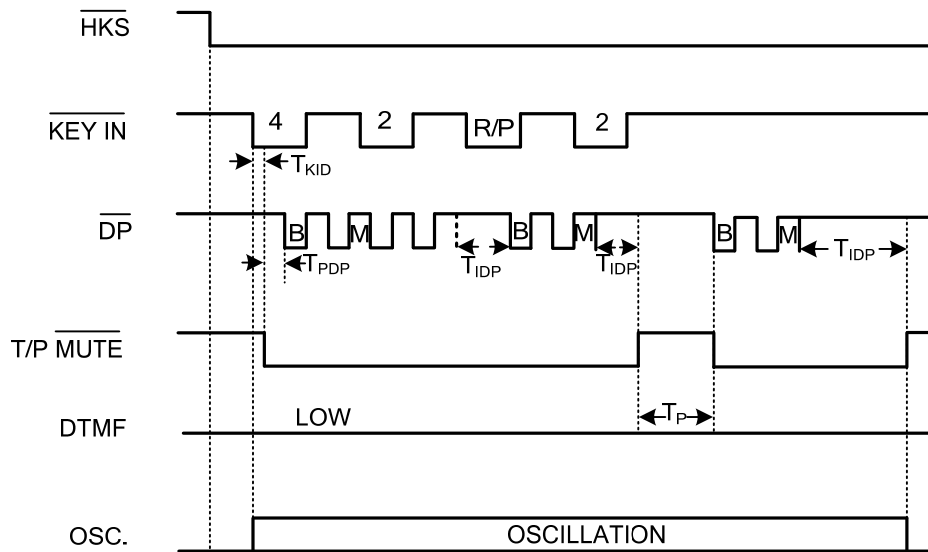

Fig. 3 Pulse Function Timing Diagram
3. The pause function timing diagram is shown in Figure 3.